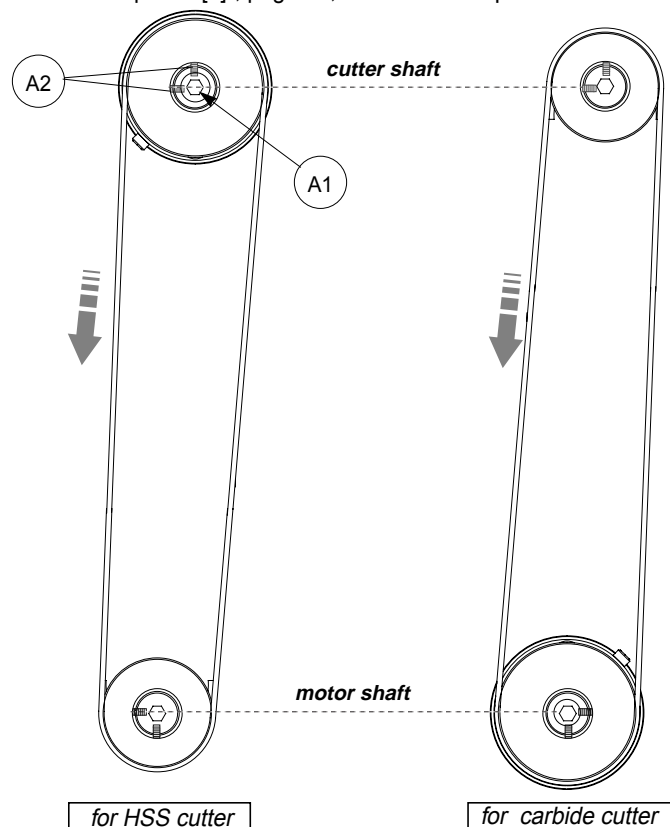

Fig. 21
- 5) fit the cutter shaft locking rod and use the allen key provided to loosen the screw (A1) and grub screws (A2) on the pulley (fig. 21).